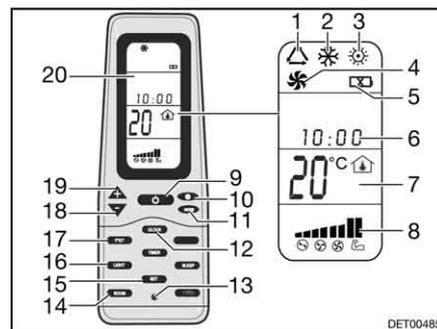

Fig. 123 Remote control
- Press the ON/OFF button (Fig. 123,9).
- Press the "Mode" button (Fig. 123,11) as often as required until the required mode (Fig. 123,1, 2, 3 or 4) is indicated on the display (Fig. 123,20).
- Use the "+" (Fig. 123,19) and "-" (Fig. 123,18) buttons to set the desired temperature.
- Use the fan speed button (Fig. 123,10) to select the desired fan level.